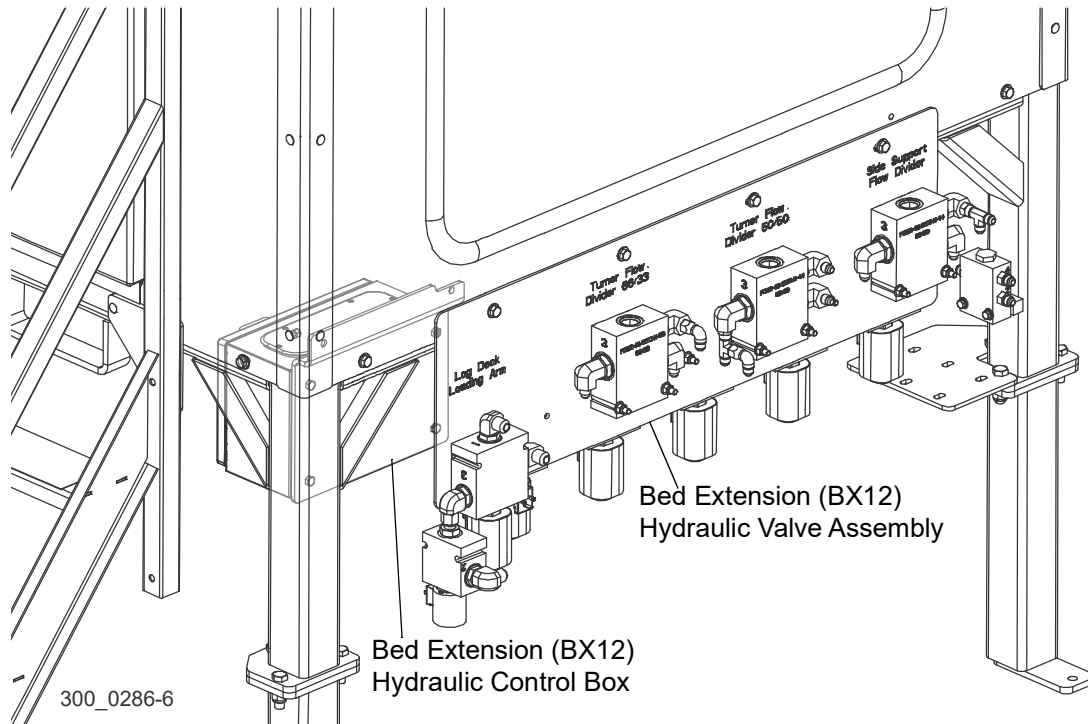

FIG. 3-27
1. Install the bed extension hydraulic control box and valve assembly to the operator station, as shown in Figure 3-27.